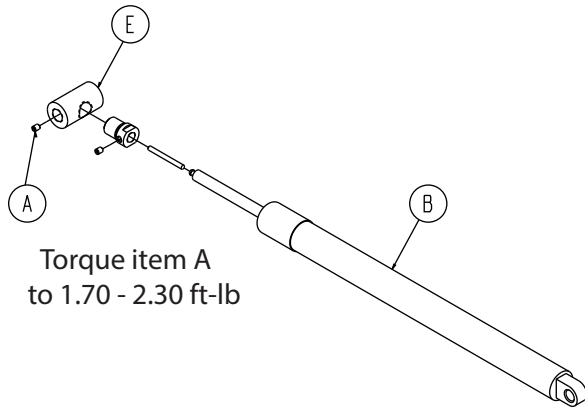
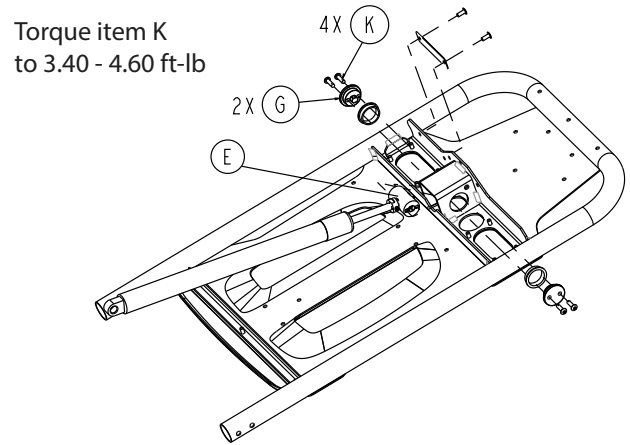

Figure 8 – Fowler cylinder components
Figure 9 – Remove the button head cap screws
4. Check that the gas cylinder (B) is threaded into the gas spring yoke (E) so that no threads are visible on the gas cylinder shaft (Figure 8).
- a. Using a T25 Torx driver, remove the two button head cap screws (K) that secure the gas spring yoke end (G) to the yoke on the patient left side (Figure 9). Save the screws.
- b. Using a 3/32" hex wrench, remove the set screw (A) from the center of the gas spring yoke (E) (Figure 8 and Figure 9). Save the screw.